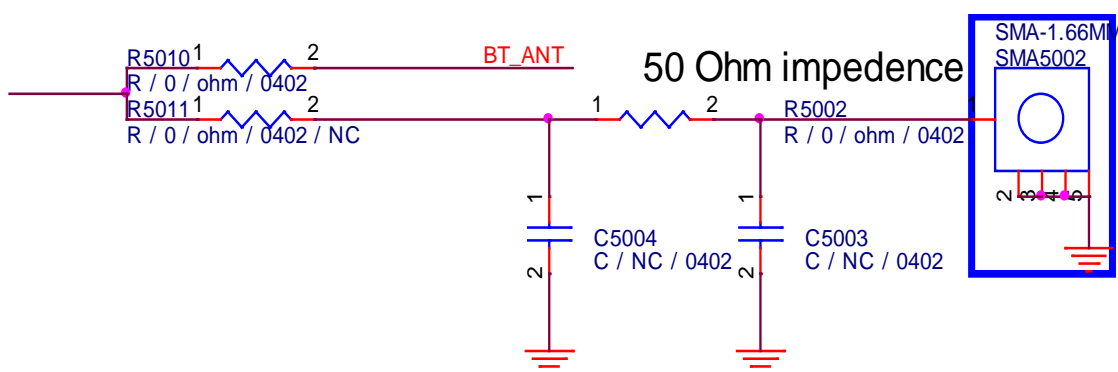
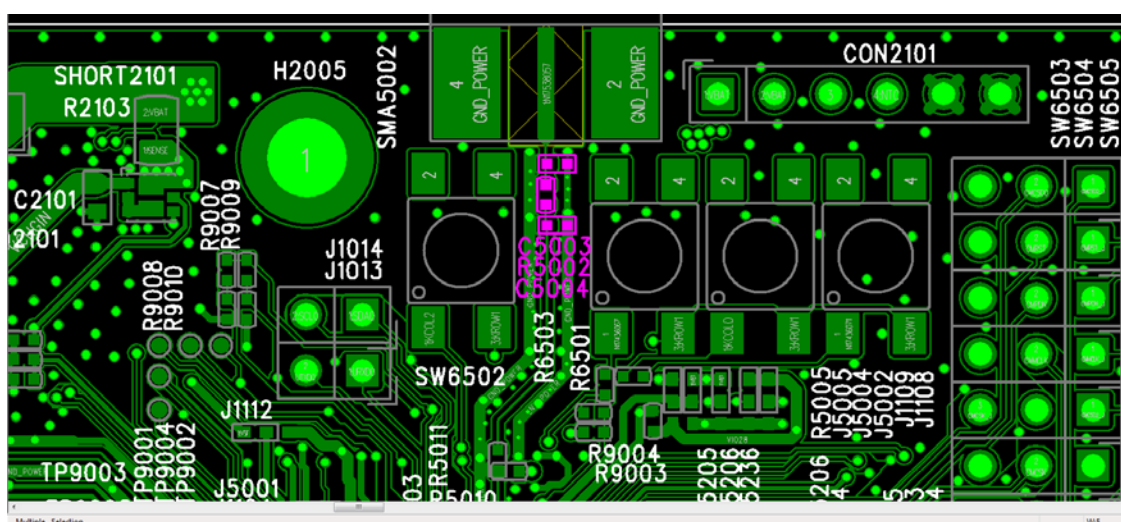

Figure 14. The π shape for antenna matching
Figure 15. The matching adjustment placement on PCB
- 2) LinkIt 2523 HDK's Bluetooth support has integrated match filters, so there is no need to reserve any other component except a π shape net for antenna matching, the net is shown in Figure 14 and Figure 15 for schematic and layout routing. Keep 50 Ω impedance with tolerance of 10% offset.